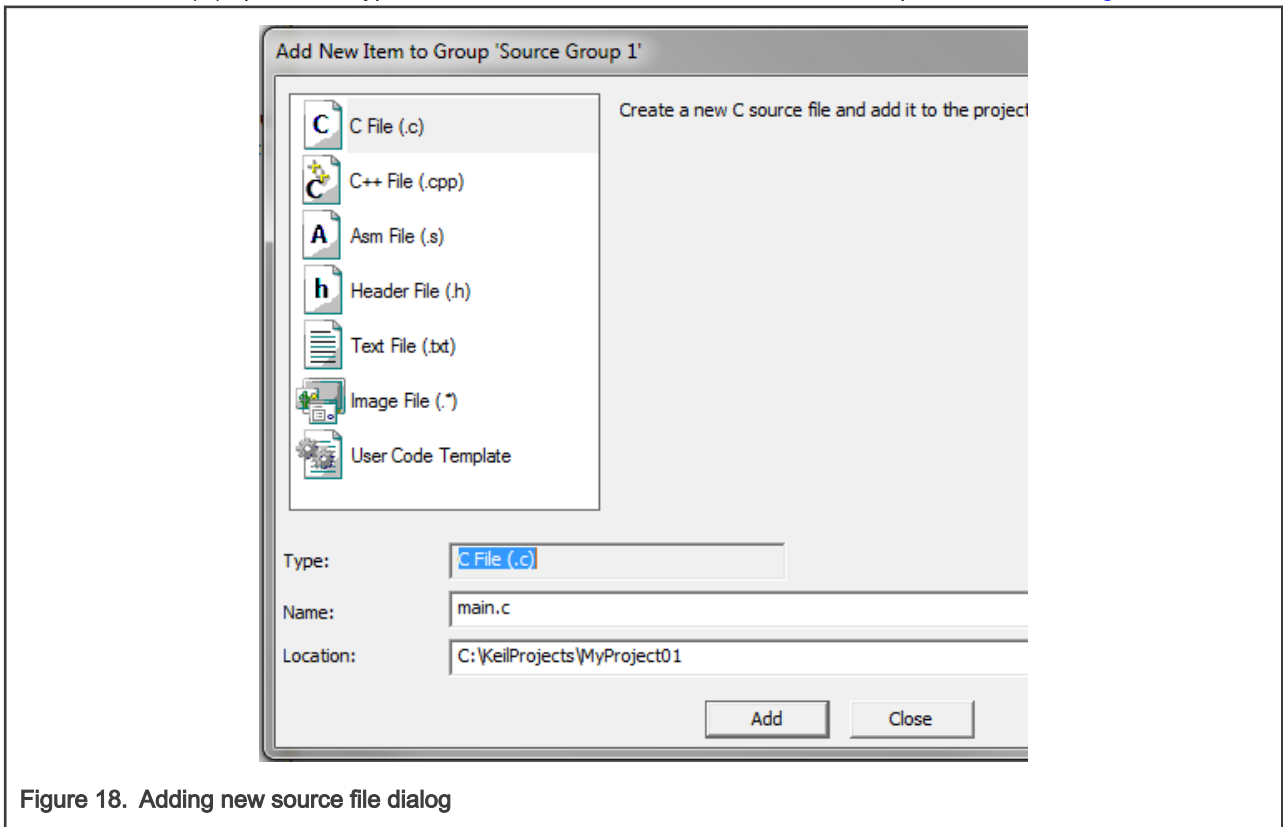

Figure 18. Adding new source file dialog
2. Select the C File (.c) option, and type a name of the file into the Name box, for example 'main.c'. See Figure 18.